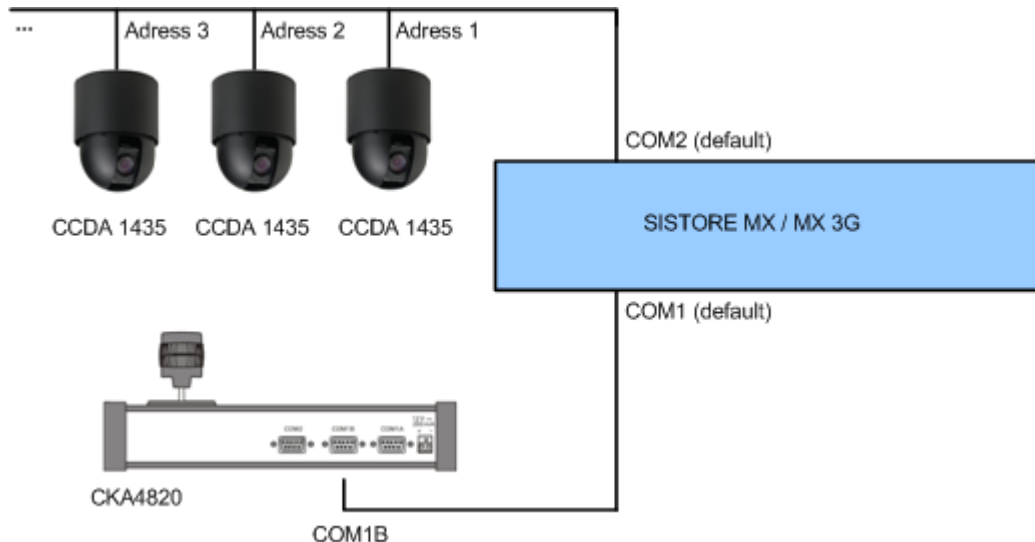

Fig. 18 Dome CCDA1435 – CKA4820 system overview
1. Connect the dome cameras and the control panel to the SISTORE (see Fig. 18). Further information on this can be found in the instruction manuals for the dome camera and the control panel.